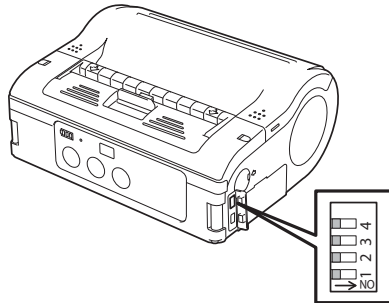

Figure 4-5, Printer with DIP Switch Cover Open
1. Open the small black vinyl cover labeled DSW - USB on side panel of unit. Figure 4-5 shows the cover for the DIP switches and USB port in the open position. The source of the enlarged view of the switches are the parts under the small cover.